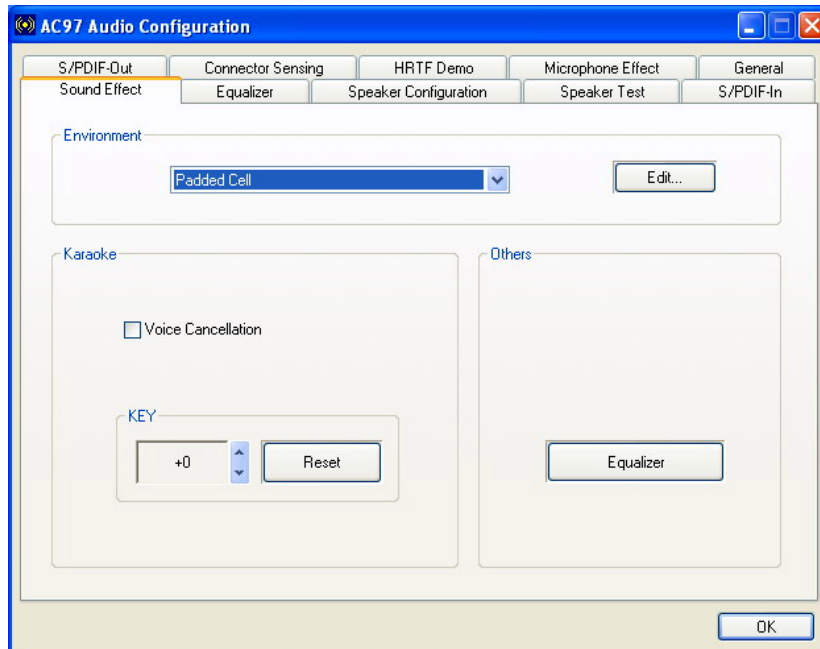

Figure D-4: Sound Effects Manager (ALC203)
Step 3: The sound effect manager appears (**Figure D-4**).
The Sound Effect Manager shown in **Figure D-4** is for the RealTek ALC203 audio CODEC. Different CODECs may have different sound manager appearances.
The **Sound Effects Manager** enables configuration of the items listed below. To configure these items click the corresponding menu tab in the **Sound Effects Manager** (**Figure D-4**).